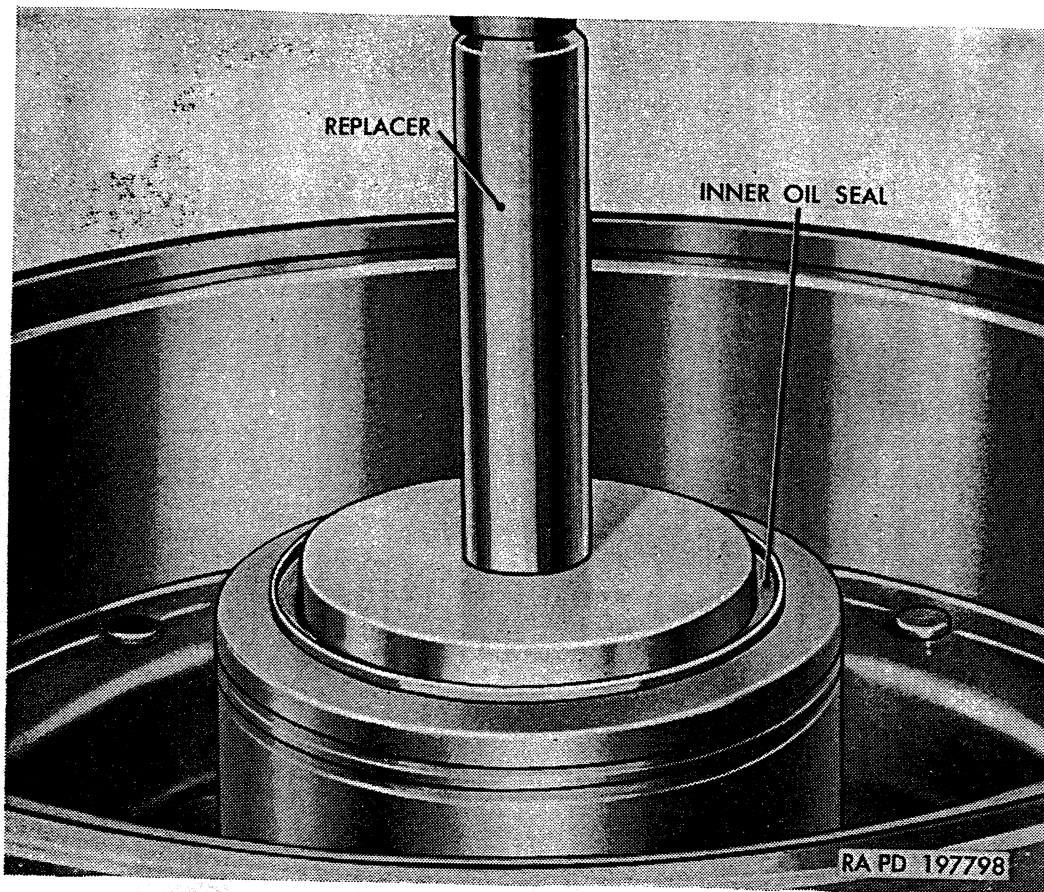

Figure 274. Installing inner oil seal with replacer B7950766.
- (1) Place inner roller bearing cone in inner end of hub (fig. 270 or 271). Position new inner oil seal assembly on inner end of hub and drive into place with replacer B7950766 as shown in figure 274. Oil seal flange must seat firmly against inner end of hub.
- (2) Install hub and drum assembly on steering knuckle (front) or axle housing (rear), using care not to damage inner oil seal. Place outer roller bearing cone on steering knuckle or axle housing and press into outer end of hub with fingers. Install outer oil seal assembly on steering knuckle or axle